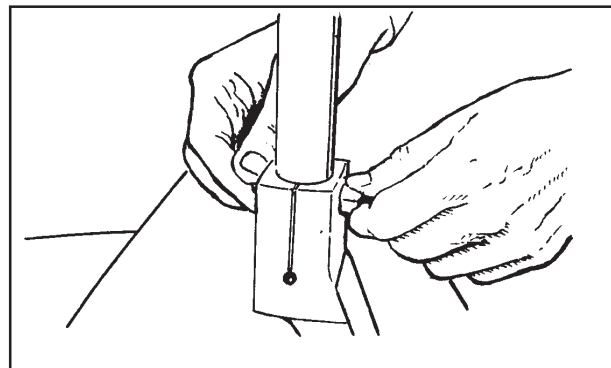

Figure 2
2. Fasten the handle into the housing with a locking screw (see figure 2).